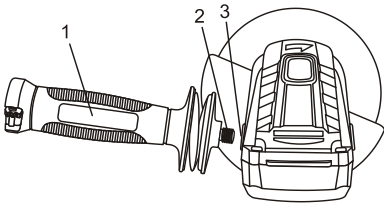

Fig. 1
2. Install the auxiliary handle (1) by screwing it clockwise into the left side (2) of the gear housing (3) (Fig. 1).